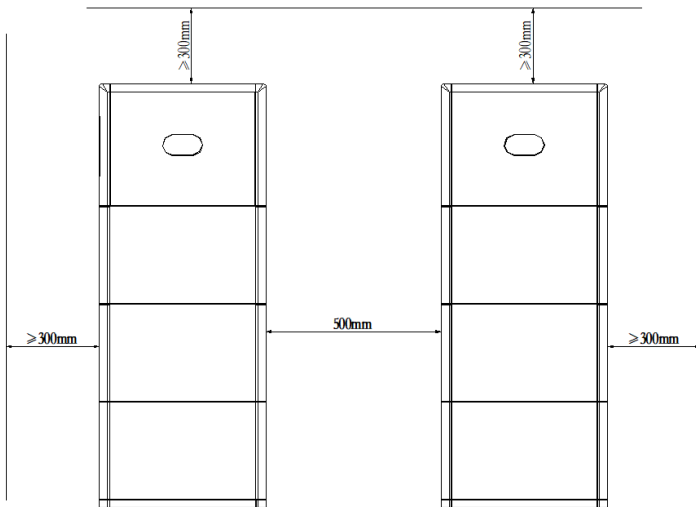

Fig. 4.4 Installation Dimension of Side-by-side Inverters
(2) To install more than one inverter, please keep a certain distance between the inverters and on both sides of the inverters (see Fig. 4.4), so as to facilitate heat dissipation.